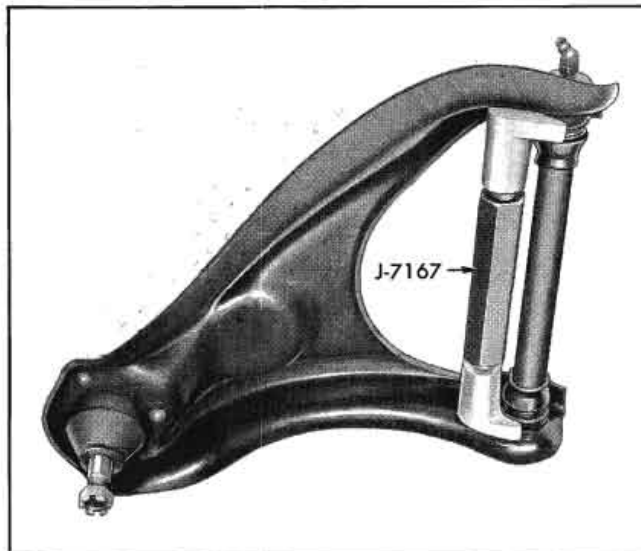
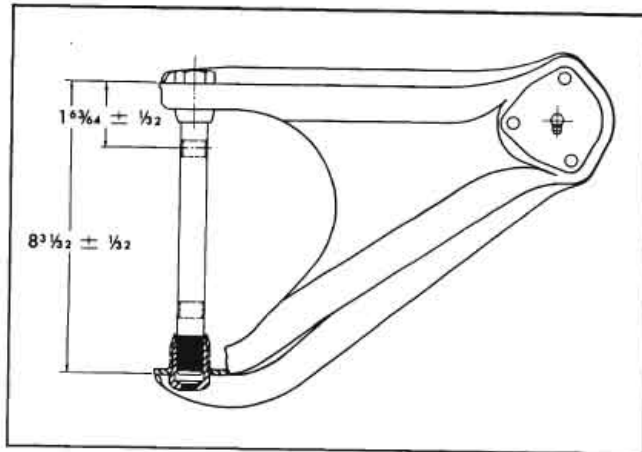

Fig. 3-20 Upper Control Arm Spreader Installed
Fig. 3-21 Correct Installation of Upper Control Arm Shaft
a. Place tool J-7167 in position (Fig. 3-20) and expand until distance between inner faces of arms is $8\frac{31}{32}$ " (Fig. 3-21).
e. Check to see that distance between inner faces of shaft ends of control arms is correct (Fig. 3-21). Also check to see that pivot shaft is equalized in arm by measuring from bolt hole to arm at each end of shaft. Turn shaft in arm to centralize if distances from each bolt hole to arm are not equal.